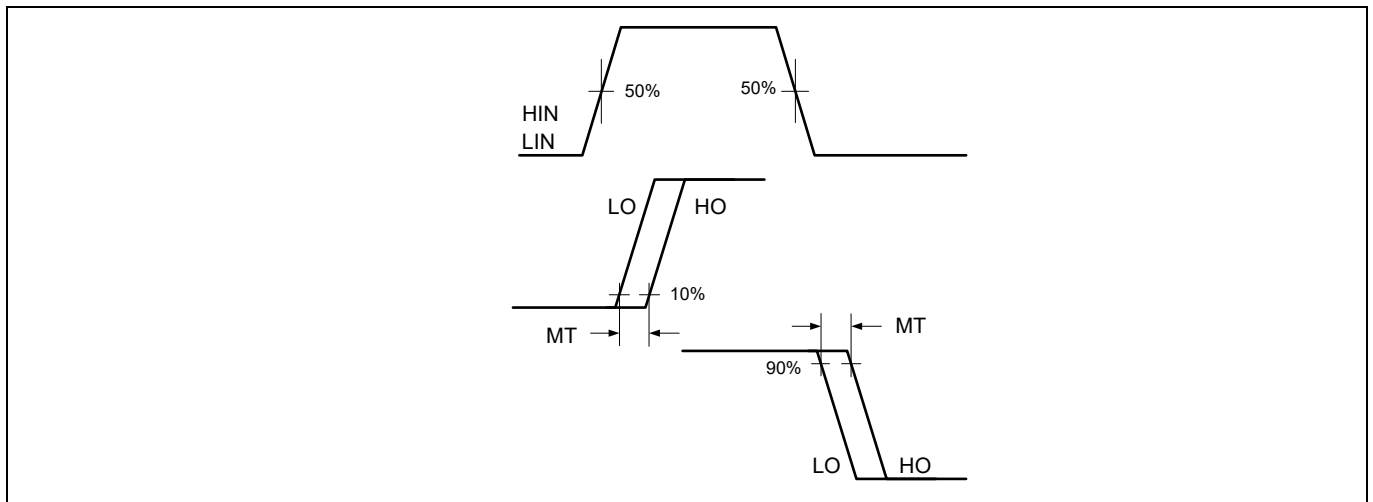

Figure 5 Delay matching waveform definition
IGI60L1414B1M is designed with propagation delay matching circuitry. With this feature, the integrated gate driver IC's response at the output to a signal at the input requires approximately the same time duration (i.e., t_{ON} , t_{OFF}) for both the low-side channels and the high-side channels as shown in Figure 5. The maximum difference is specified by the delay matching parameter (MT). The propagation turn-on delay (t_{ON}) of the integrated gate driver is matched to the propagation turn-off delay (t_{OFF}).